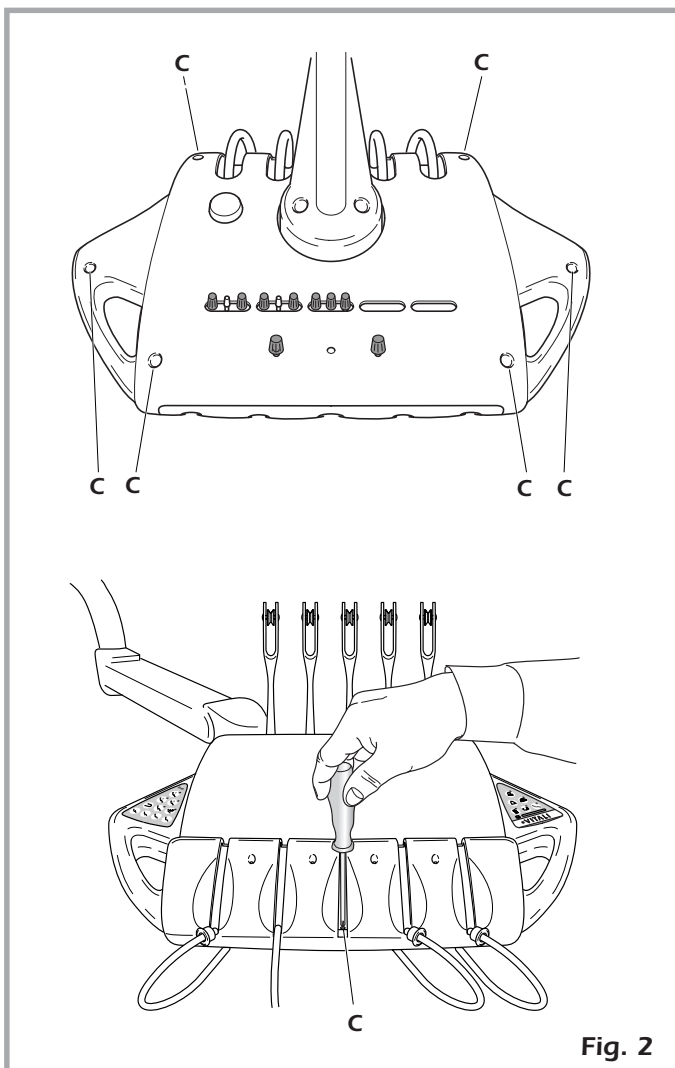

Fig. 2
- 4) Unscrew the 7 screws "C", as shown in the fig. 2